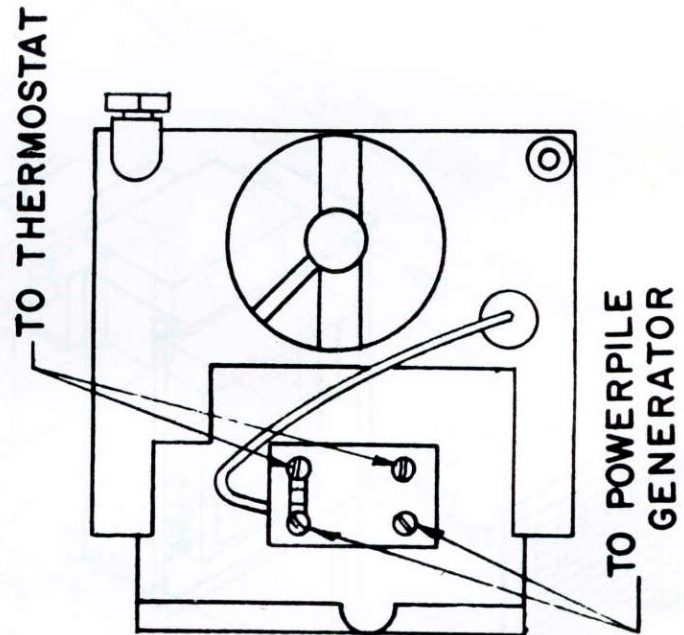

Figure 5
- C. Refer to Fig. 5 for wiring connections to the valve.